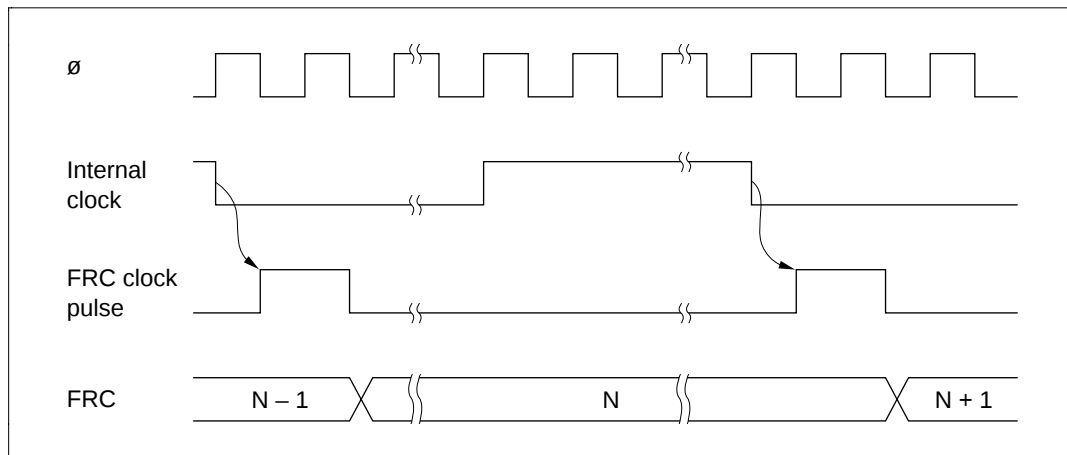

Figure 9-3 Increment Timing for Internal Clock Source
(1) Internal Clock Sources: Can be selected by the CKS1 and CKS0 bits in TCR. Internal clock sources are created by dividing the system clock ($\emptyset$). Three internal clock sources are available: $\emptyset_p/2$, $\emptyset_p/8$, and $\emptyset_p/32$. Figure 9-3 shows the increment timing.